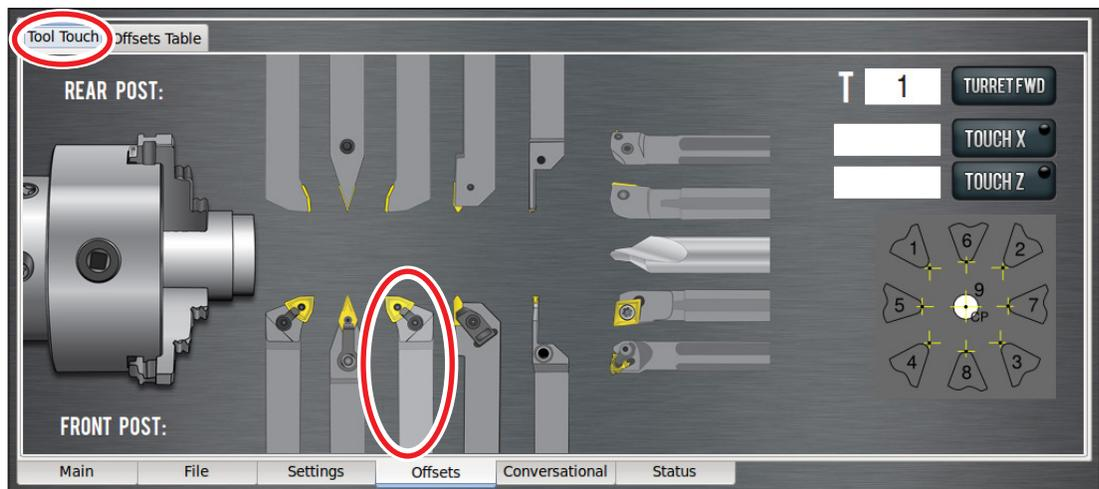
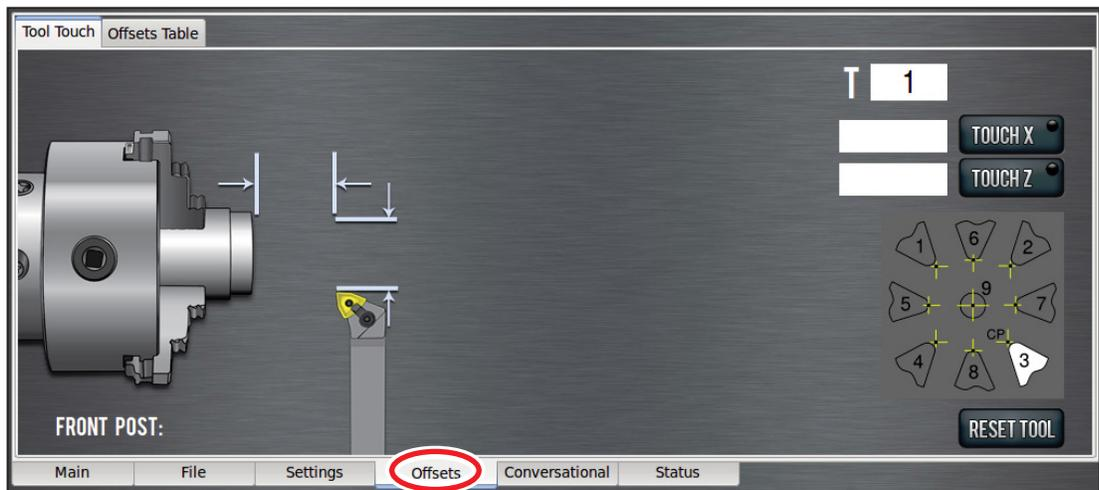

Figure 4.11
Figure 4.12
The actual method differs depending on whether you have a gang, turret, or quick change tooling setup. For the purposes of this instruction, we assume you have the quick change setup and that you have adjusted your quick change tool holders to centerline height. Make sure that there are no tool geometry offsets currently applied by clicking *Reset Tool* on the *Offsets* screen (see **Figure 4.12**), which clears the geometry offsets for the currently loaded tool. If the *Offsets* screen displays a selection of tools (see **Figure 4.11**), this indicates no tool offsets have been applied.
2. Click on the *Tool Touch* tab on the *Offsets* screen and select the front tool post, right-hand turning tool (see **Figure 4.11**).
**NOTE:** Select the rear tool post right-hand turning tool for use with a turret; the next touch off screen is shown in **Figure 4.12**.
5. You should see the tool type selection screen again (see **Figure 4.11**). Select the front tool post parting tool (unless using a rear tool post parting tool, in which case you should select the rear tool post parting tool).